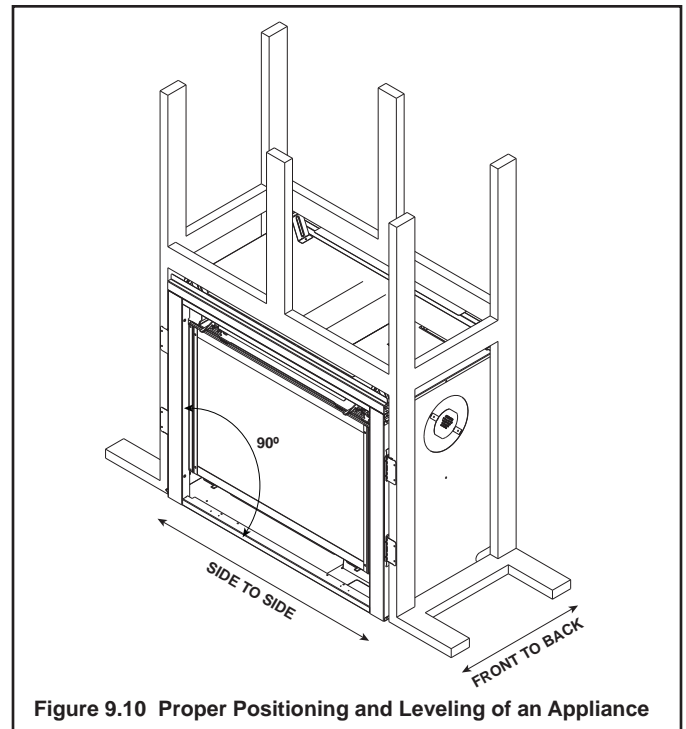

Figure 9.10 Proper Positioning and Leveling of an Appliance
7. Using a framing square, make sure that the sides of the appliance are square to the bottom as shown in Figure 9.10.